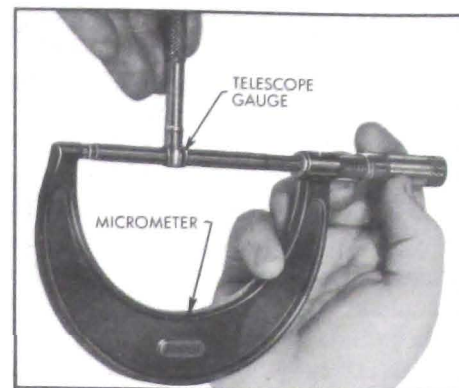

Figure 2-56—Measuring Telescope Gauge
2. Measure the telescope gauge. See Figure 2-56.